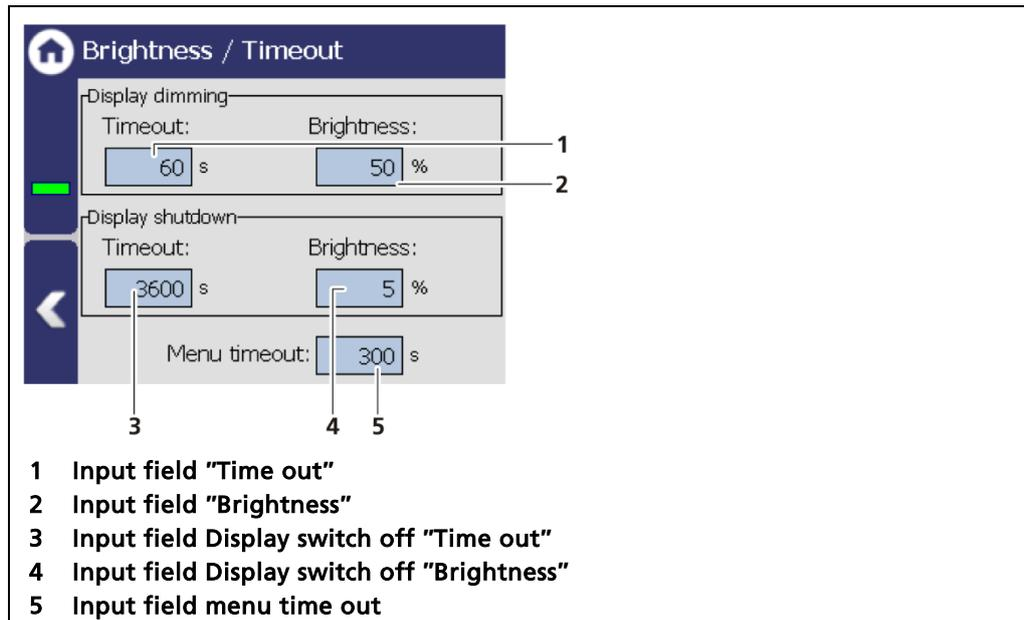

Fig. 49 Brightness / Timeout
In the field Display dimming, clicking the input fields allows the entering of the brightness (Fig. 49, item 2) in percent, that is set after expiry of the time (Fig. 49, item 1).
In the field Display shutdown, clicking the input fields allows the entering of the brightness (Fig. 49, item 4) in percent, that is set after expiry of the time (Fig. 49, item 3).
Under "Menu Timeout" clicking on the input field (Fig. 49, item 5) changes the time period (seconds) in which the menu view changes to the standard view.